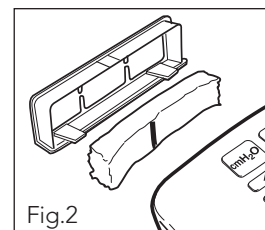

Fig.2
- c. Fill the chamber up to the water-filling line with distilled water only; an optional funnel is supplied for easy filling (Fig.2).
- Replace the old filter with a new filter: Ensure the vertical black line is facing towards the device (Fig.2).